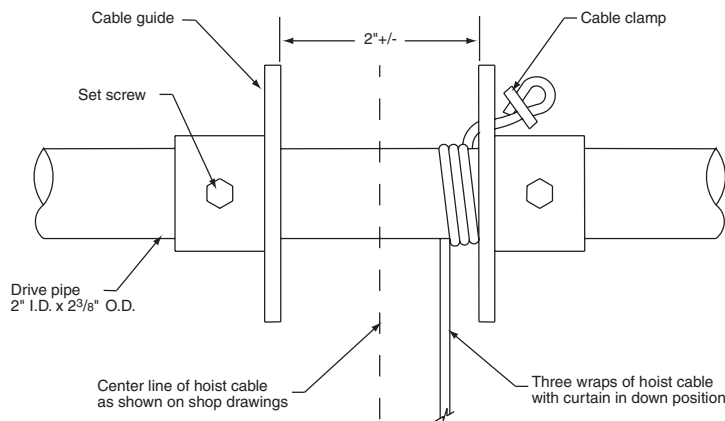

Figure 4
- ③ Make small cuts in the top pocket to attach the wire rope cable around the 1⁵/₈" pipe.
- ④ Operate the winch to raise the curtain into position.
- ⑤ Once raised to proper height, attach the chain from the drive pipe support assemblies around the top pipe and disconnect the wire rope cable. A small cut is required in the pocket for the chain.
- ⑥ Relocate cable guide sleeves and set distance (See Fig. 4).
- ⑦ Thread wire rope cable through grommets. Pull tight and attach around 1⁵/₈" pipe. Small cut required in pocket for wire rope cable.